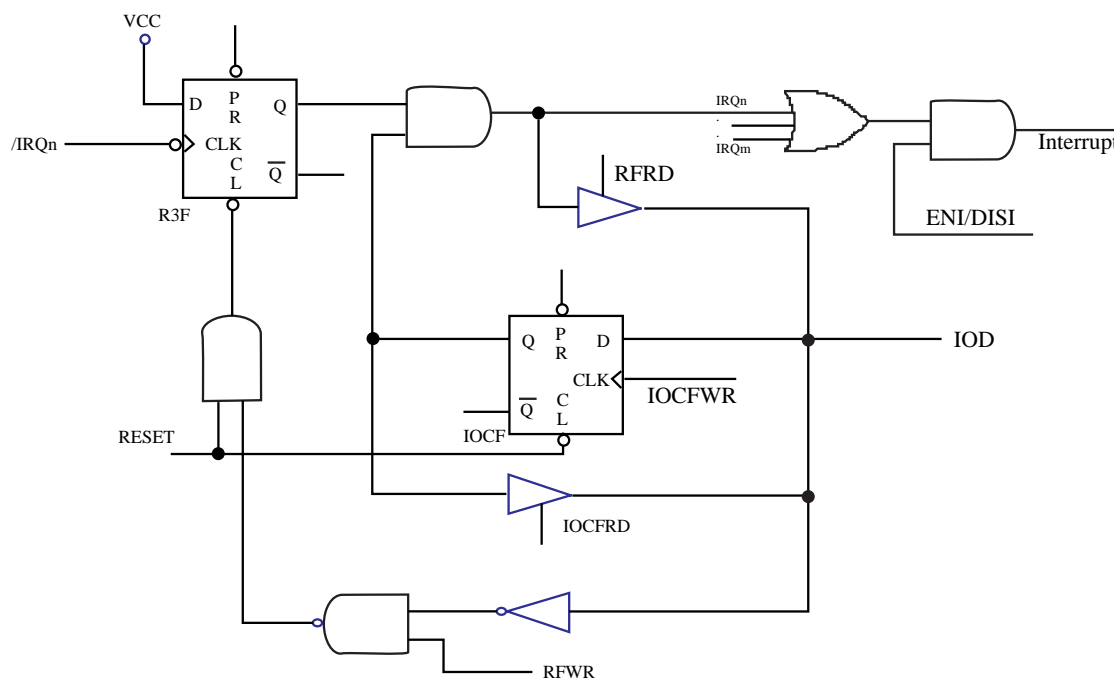

Fig. 9 Interrupt input circuit
- Global interrupt is enabled by ENI instruction and is disabled by DISI instruction. Refer to Fig. 9.
ENI instruction. Note that reading R3F will get the output of logic AND of R3F and IOCF. Refer to Fig. 9. The RETI instruction exits interrupt routine and enables the global interrupt (execution of ENI instruction). When an interrupt is generated by INT instruction (when enabled), causes the next instruction to be fetched from address 002H.